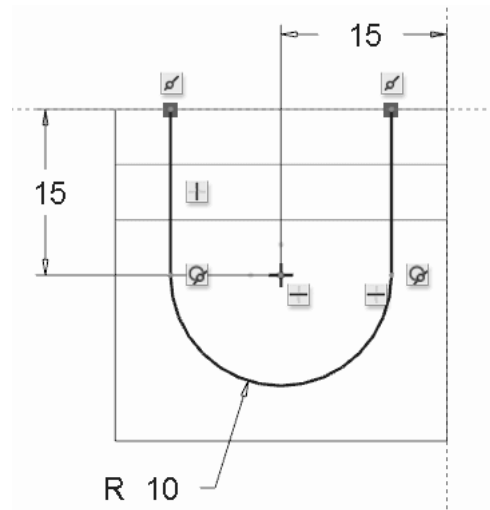

Figure 33 Final sketch for cut
Now left click at vertex 3 and draw a vertical line up to snap to the reference at vertex 4, making sure that you have a tangent constraint (T) at vertex 3. Our sketch is complete. Use the middle mouse button to return to Select mode. Your dimensioning scheme may be different from those shown in Figure 33. Your dimensioning scheme may even be slightly different. It will be easier to see this if you go to hidden line display instead of shading.
All the dimensions should be weak. Drag them to a better location if necessary (off the part). Don't be afraid to resize your display so that you can see everything clearly. Compare the dimensioning scheme with the one in Figure 33. We want to have a horizontal dimension of 15 from the reference at the back of the part to the center of the arc of the U. If you do not have that dimension, we'll have to add one manually. This will illustrate a case where we will override the Intent Manager.
Modify the values of the dimensions to match those in Figure 33.